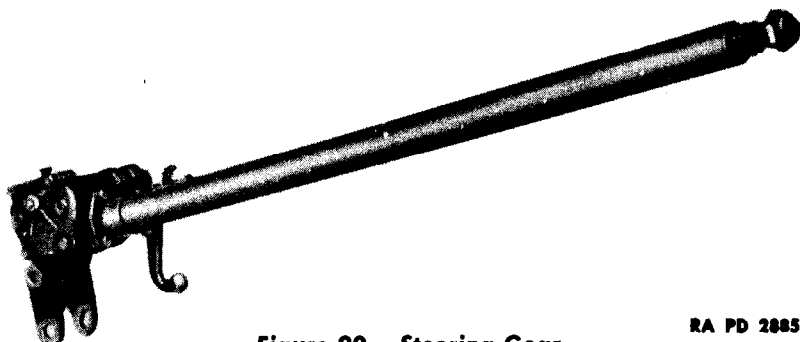

Figure 90 — Steering Gear
a. **Description.** The Ross Model T-12 steering gear (fig. 90) is of the cam and twin lever, variable ratio type, having a ratio of 14-12-14 to 1. The steering gear sector shaft is serrated for attachment of the Pitman arm, and the steering wheel is serrated for attachment to the worm and shaft assembly. The steering wheel is of the safety type, having three spokes and is 17 $\frac{1}{4}$ inches in diameter.